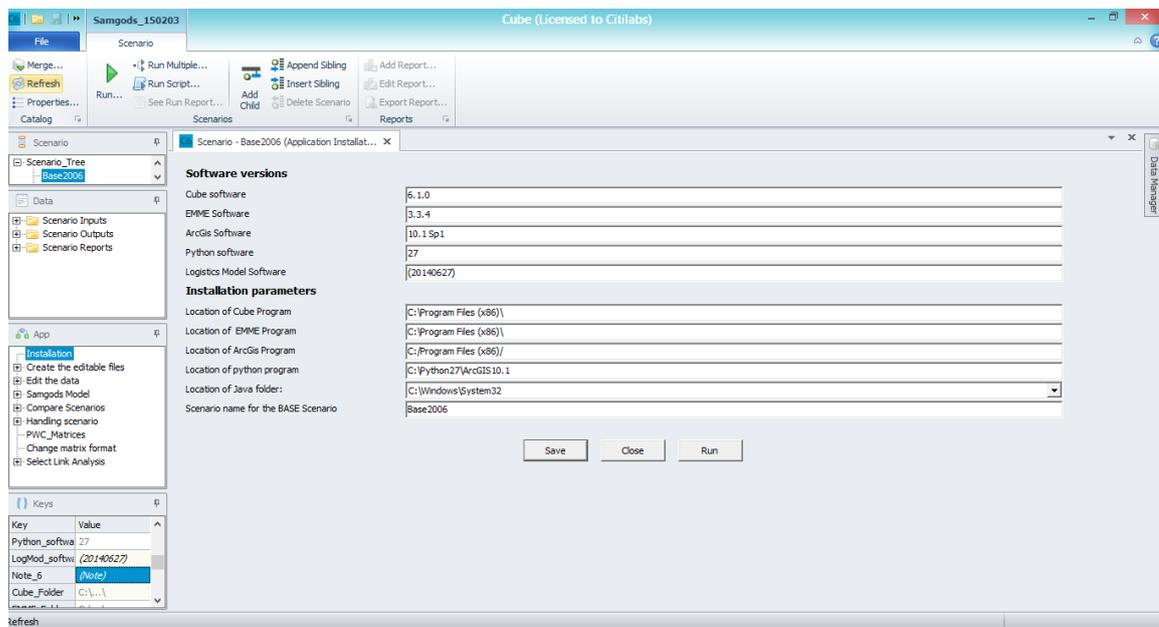

Figure 3 Example of catalog key values for the Installation application.
- d) For the following catalog keys, change to its corresponding installed version if needed² (see Figure 3 for an example):
- vi) For the catalog key “Location of ArcGIS Program” change if needed the folder where ArcGIS is installed (pre-defined: C:\Program Files (x86))*. Because this path is used by Python, it is important to use “/” or “\” instead of “\” in this key, see Figure 3 below for an example